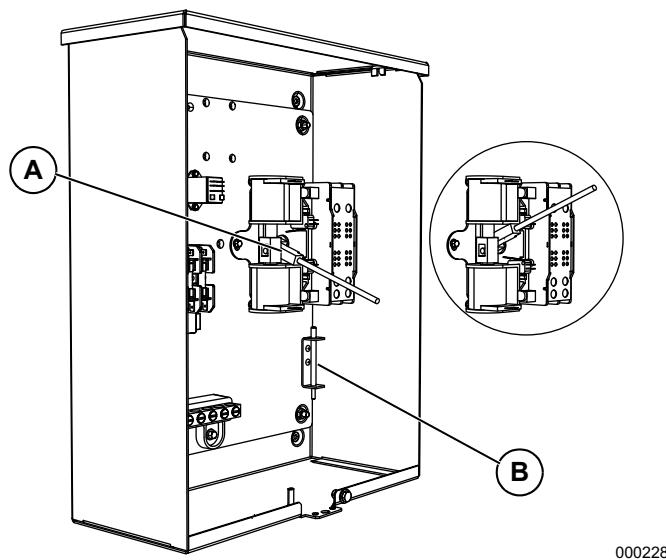

Figure 3-4. Manual Transfer Switch Operation
4. Use the manual transfer handle (A in Figure 3-4.) inside the transfer switch to move the main contacts to the STANDBY position (loads connected to the standby power source).
5. Use the manual transfer handle (A in Figure 3-4.) inside the transfer switch to move the main contacts back to the UTILITY position (loads connected to the utility power source).